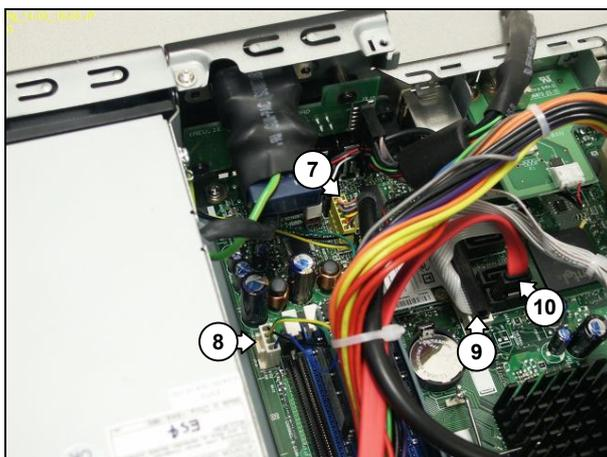

Figure 12.15-3
13. Disconnect the FP audio cable (7) from the motherboard. See Figure 12.15-3.
14. Disconnect the PSU fan cable (8) from the motherboard. See Figure 12.15-3.
15. Disconnect the ATA33 cable (9) from the motherboard. See Figure 12.15-3.
16. Disconnect the SATA cable (10) from the motherboard. See Figure 12.15-3.